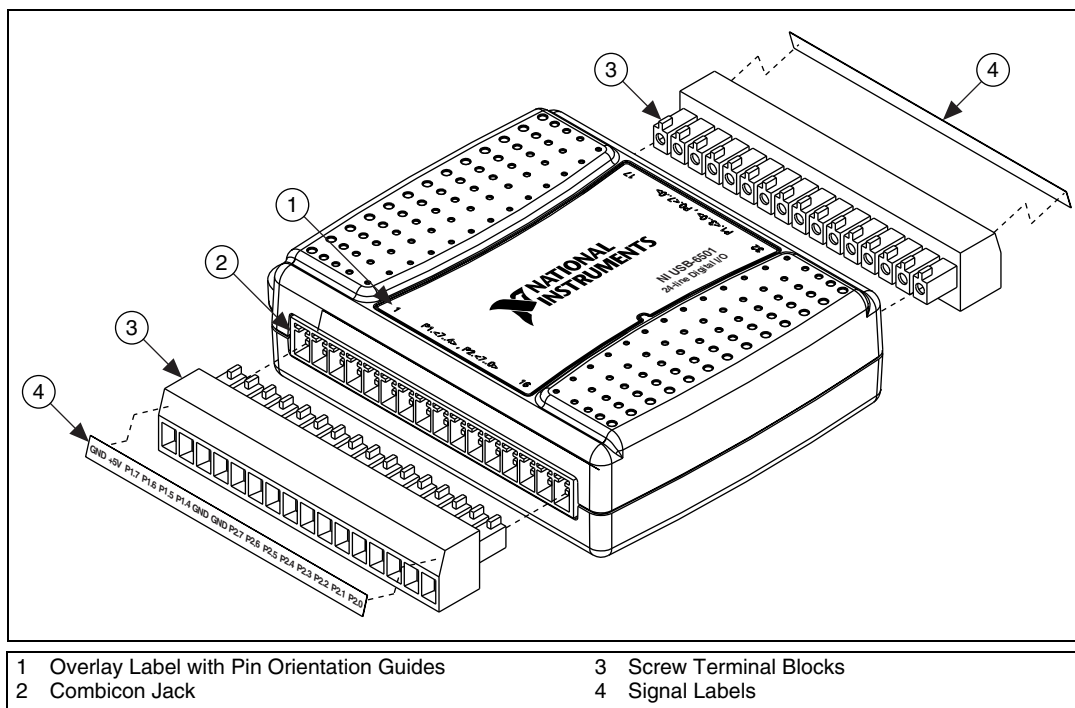

Figure 4. Signal Label Application Diagram
2. Refer to Table 1 and Figure 4 for label orientation and affix provided signal labels to the screw terminal blocks. Until the signal labels are applied, you can insert the screw terminal blocks into either of the combicon jacks. Refer to Figure 4 for more information about signal label orientation.